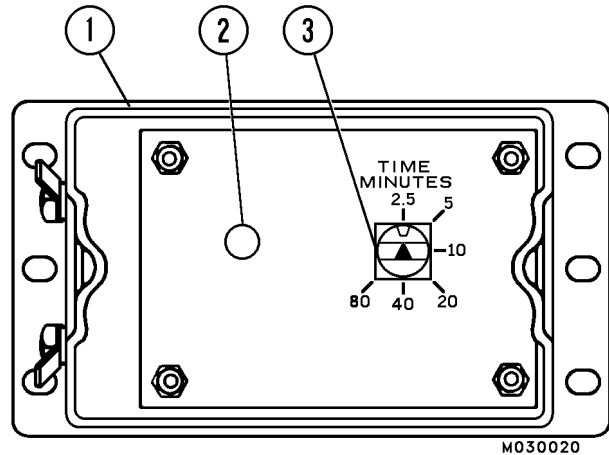

FIGURE 4-9. TIMER (TOP COVER REMOVED)
2. Adjust timer selector (3, Figure 4-9) to 5 minute interval setting.
The timer is factory set for a nominal 2.5 minute (off time) interval. Dwell time is approximately 1 minute, 15 seconds. A longer interval (off time) is obtained by turning the Selector knob (3, Figure 4-9) to the desired position .